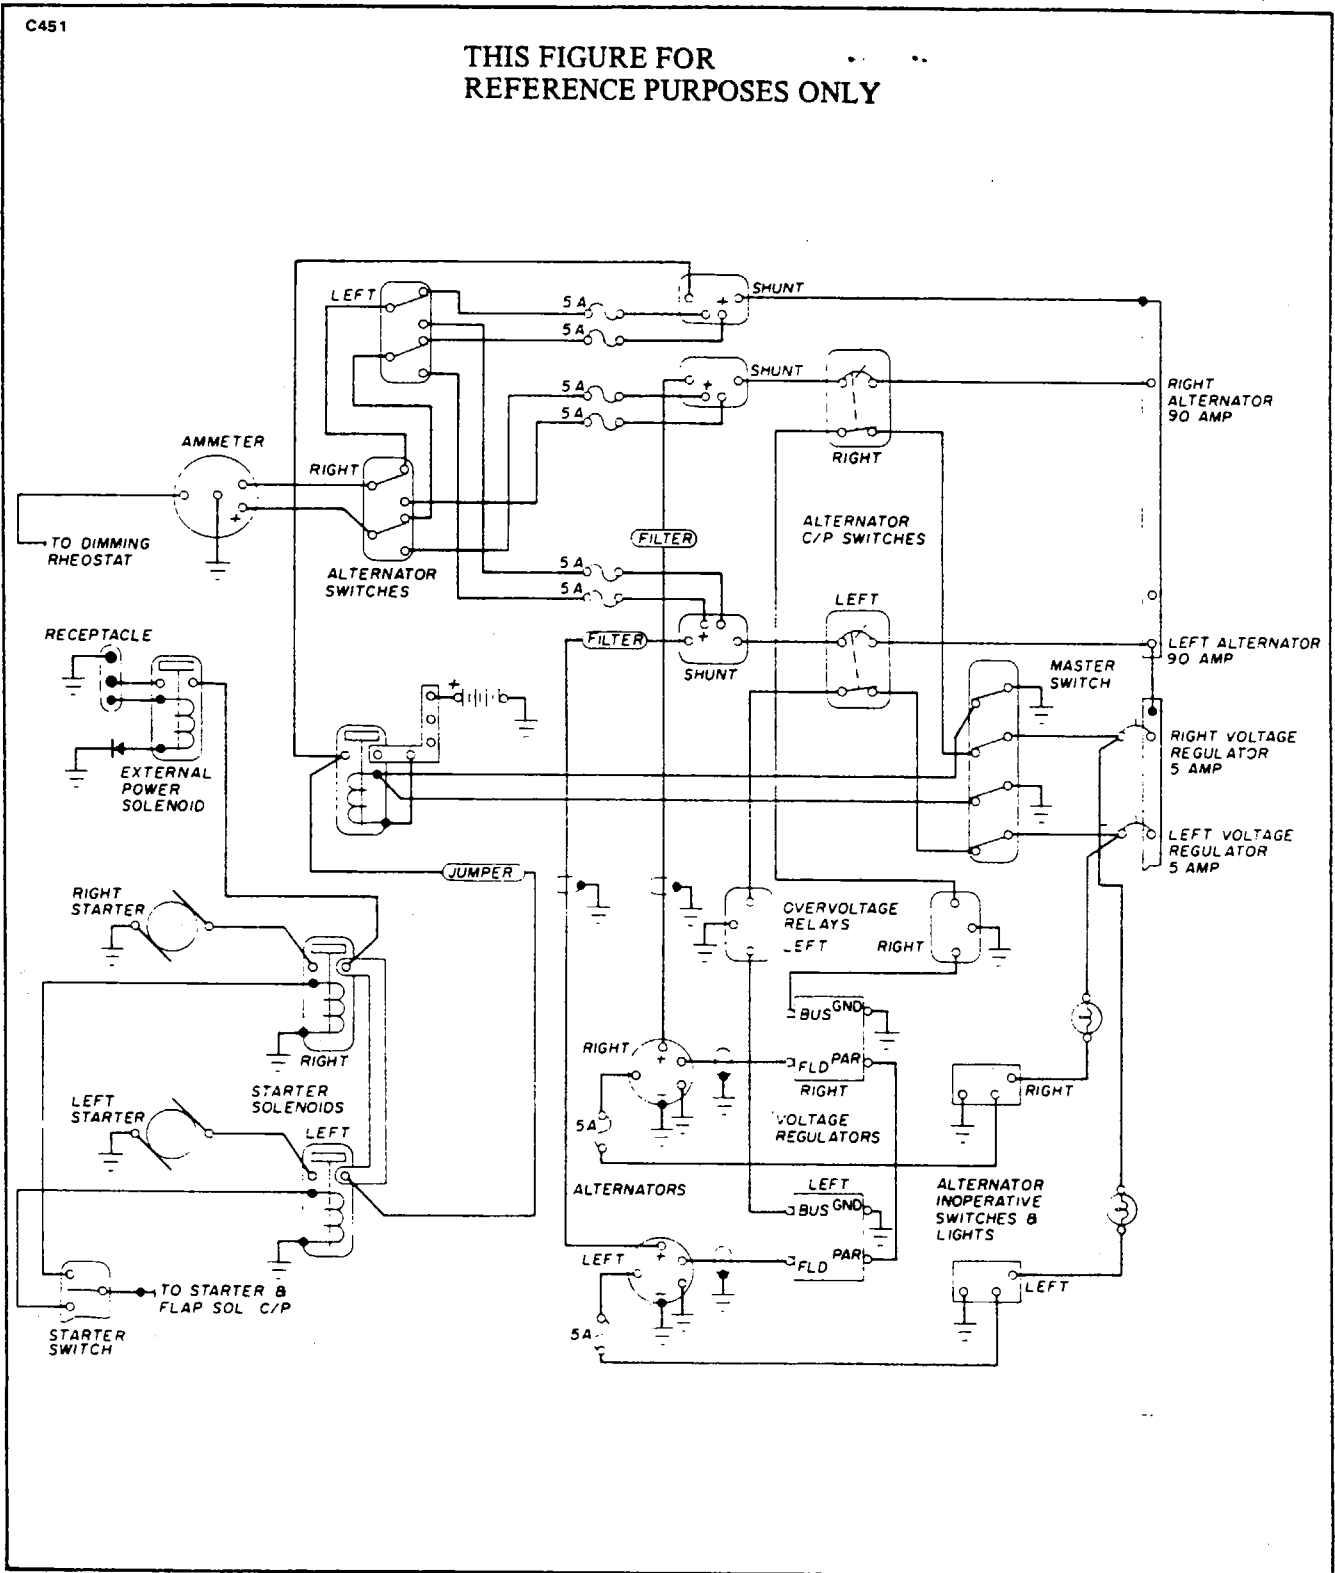

Figure 11-31. Alternator Paralleling System
11-40. CHECKING ALTERNATOR PARALLELING SYSTEM. The alternator paralleling system incorporates an ammeter which provides for an independent check of each alternator, as well as the charge/discharge current of the battery. In the event either ALTERNATOR INOPERATIVE light begins to glow or the ammeter check for either alternator fails to indicate an output, check the appropriate alternator circuit breaker switch, also the voltage regulator circuit breaker. If the circuit breakers are in their normal operating position a further check of the alternator system should be accomplished. (Refer to Figure 11-31.)
- g. Should there be no indication of voltage, trace back through the output circuit until voltage is indicated. (Refer to Figure 11-31.) A component that does not indicate voltage at both its input and output terminals should be replaced.